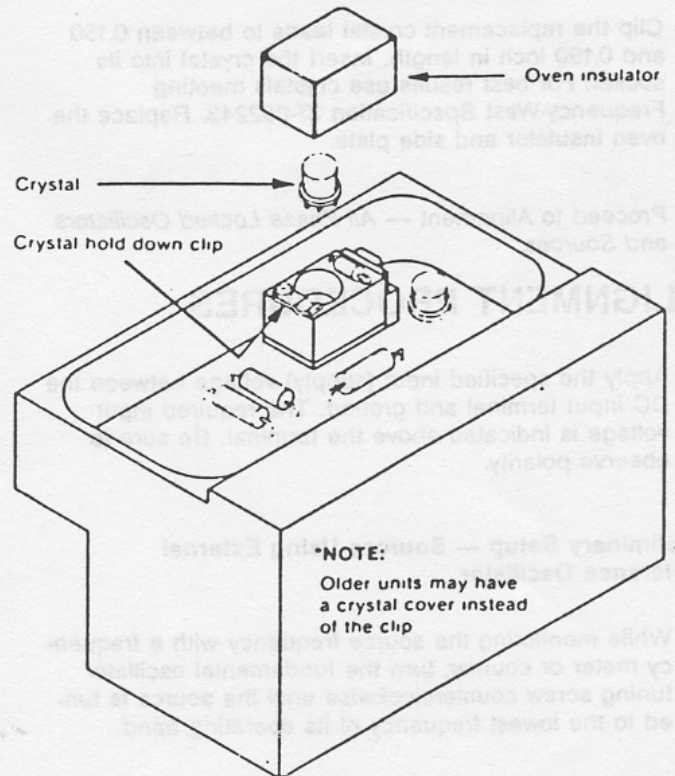

Figure 3
1. Remove the side plate bearing the Frequency-West logo from the unit, the oven insulator, and the crystal. See Figure 3.